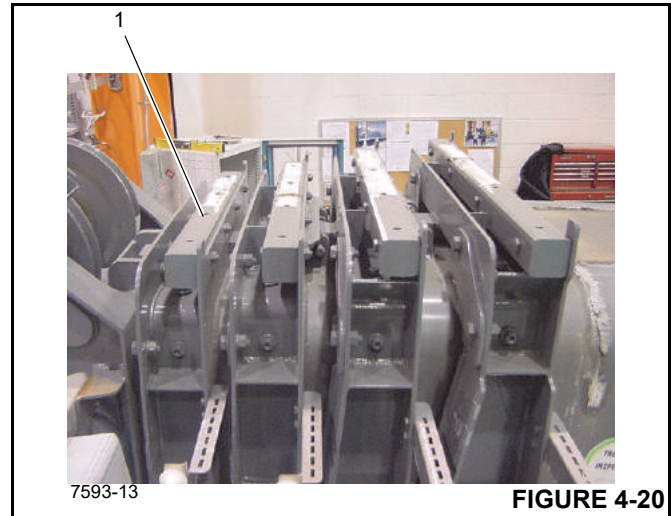

FIGURE 4-20
8. Remove cable protection strip (1) (Figure 4-20) from the top front of the flange in the front of the section.